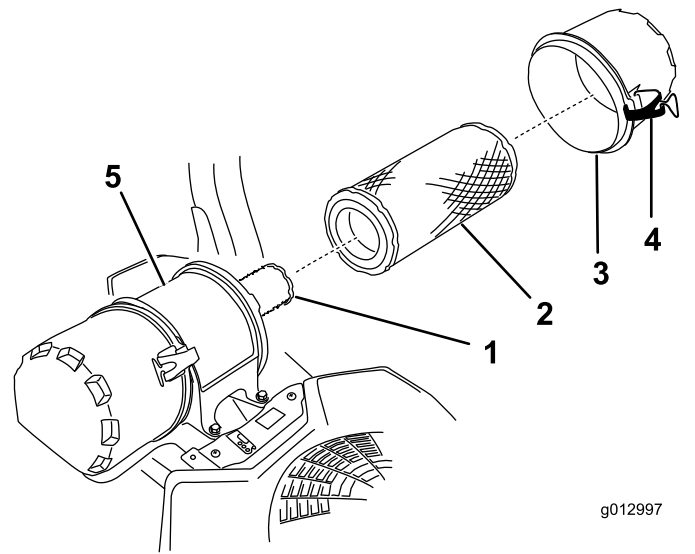

Figure 61
6. Release the latches on the air cleaner and pull the air-cleaner cover off the air-cleaner body (Figure 61).
8. Gently slide the primary filter out of the air-cleaner body (Figure 61).
2. If you are replacing the inner filter, carefully slide it into the filter body (Figure 61).
3. Carefully slide the primary filter over the safety filter (Figure 61).
4. Install the air-cleaner cover and secure the latches (Figure 61).